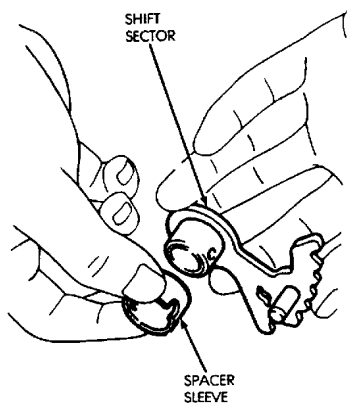

Fig. 25 Installing Spacer Sleeve On Sector
- (11) Install new spacer sleeve on sector (Fig. 25).
- (12) Lubricate manual valve shaft and install it in case.
- (13) Lubricate sector and sleeve and install them on shaft.
- (14) Align hole in spacer sleeve with notch in sector. Then install shift sector roll pin. Tappin into sector and shaft and stake sleeve to sector and shaft securely.